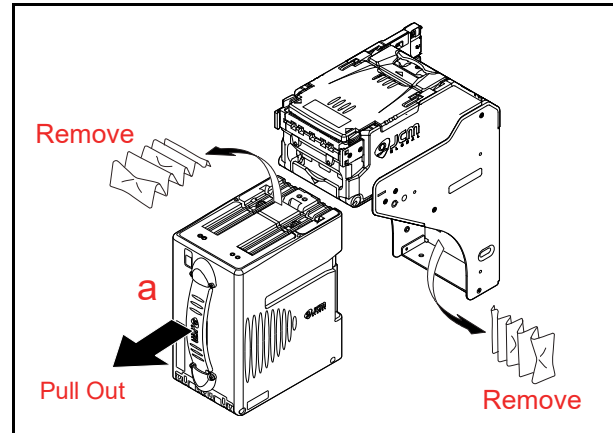

Figure 13 Clearing a Banknote Jam 2
5. If the jammed Banknote is not found in the higher Sections, pull the Cash Box out of the Frame (Figure 13 a).